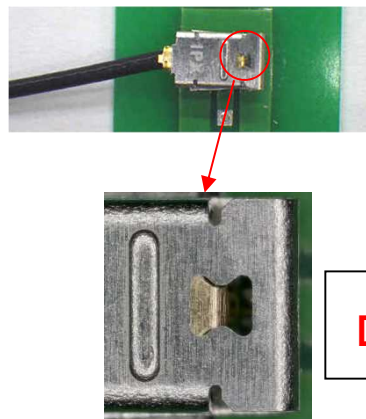

Fig.6-3 Half lock state
- In the state of Fig. 6-3, the connector fitting holding force decrease.